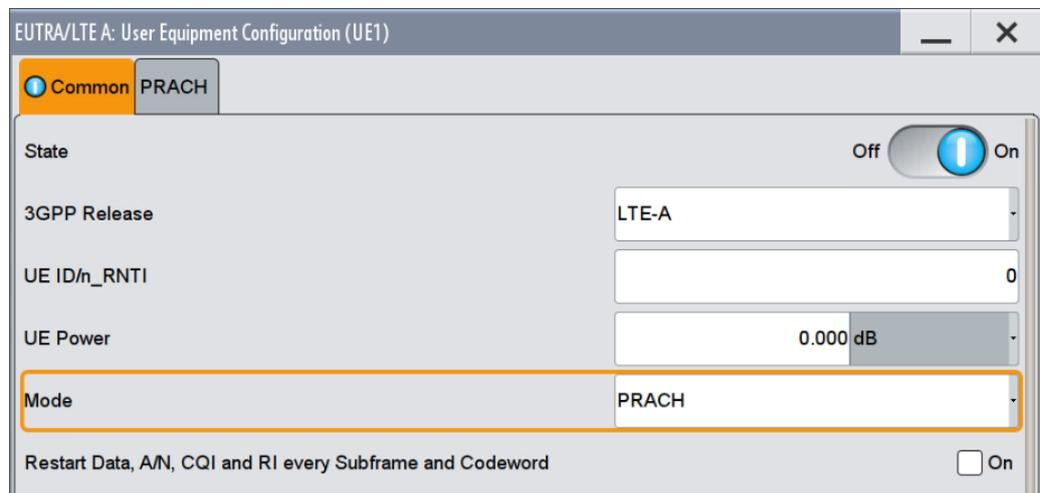

Fig. 3-214: UE in PRACH Mode.
6. Open the UE Configuration by clicking **UE1** and set **Mode** to **PRACH** (Fig. 3-214).